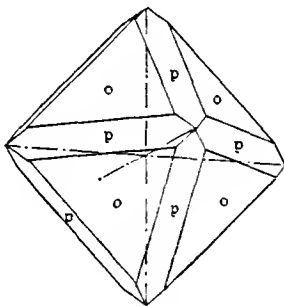

Figure 162. A Common Form of Spinel Crystals
*Crystals*: isometric, usually in octahedrons, sometimes twinned, figure 103, and often modified by the dodecahedron, figure 162, and occasionally the trapezohedron. Very rare in any other forms.